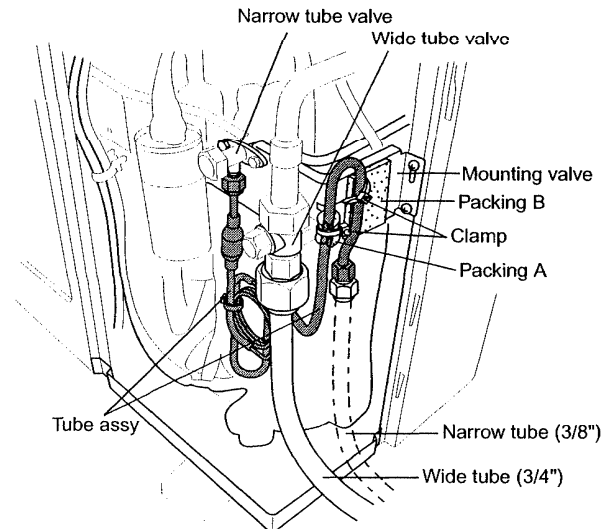
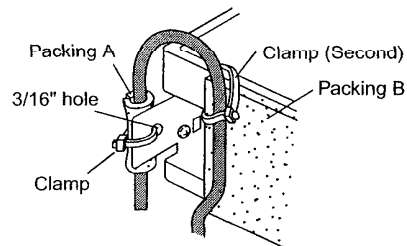

Fig. 9a
Fig. 9b
- (1) Connect a wide tube (3/4") to the wide tube valve. (Fig. 9a)
- (2) Connect the tube assy, which was packed in the indoor unit carton, to the narrow tube valve.
- (3) Before attaching the tube assy to the mounting valve, wrap the supplied packing A (3/4" × 1-3/8" × T3/16") onto the 5/16" tube of the tube assy to avoid direct contact of the tube assy with the mounting valve. (Fig. 9b, 9c)
- (4) Similarly arrange the supplied packing B (2-3/8" × 1-3/16" × T3/16") on the mounting valve. (Fig. 9b, 9c)
- (5) Insert the clamp in the extracted round hole (ø 3/16) on the mounting valve, and bind the tube assy and packing A. (Fig. 9b)